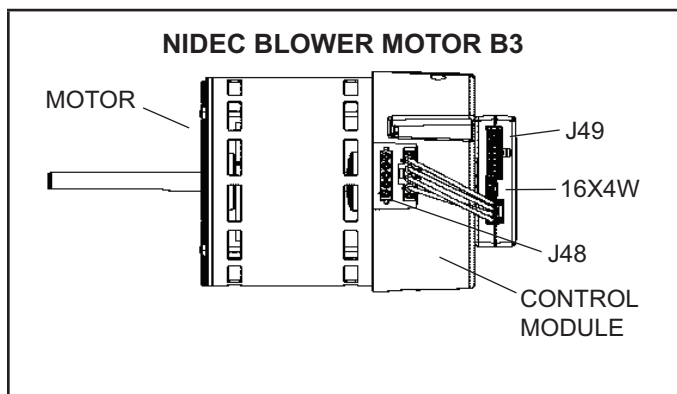

Figure 1
- 3 - Unplug the 5-pin (J48) connector from the control module and the 16-pin (J49) connector from the 16X4W black box (see Figure 1).